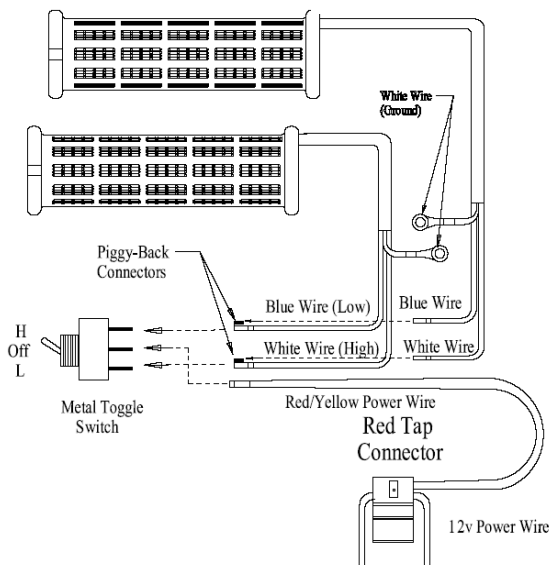

Figure 1 Connector guide & switch connections
9. Attach female slip-on connectors, piggyback connectors and ring terminals as shown in Figure 1. A crimping tool works best or pliers will work using a double crimp approach (top crimp first and then a side crimp). For Ground connection (red wires) use a frame component or a Ground wire, not a rubber isolated component such as a handlebar or steering assembly.
10. Connect heated grips to switch according to Figure 1.
11. Locate a voltage controlled power wire (such as one leading to a headlight, taillight, dash light or accessories outlet wire). Using the red tap connector, place this power wire into the continuous channel. Insert the yellow/red wire (do not strip insulation) into the adjacent channel. Using pliers, press the metal contact flush with top of connector. Close the hinged cover until latched. See Figure 1 for connection to switch. Note: For added protection, install a 4- or 5-amp fuse (not included) between the tap connector and the switch.